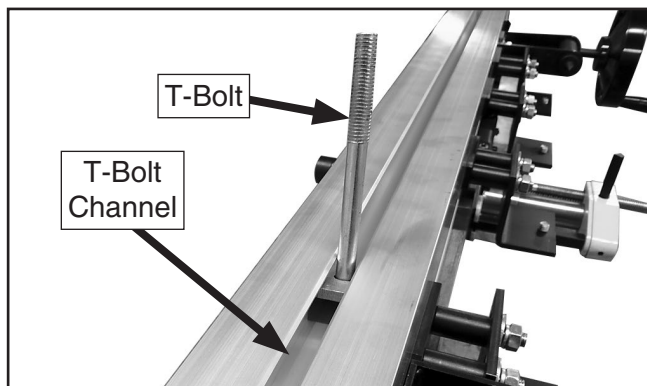

Figure 8. T-bolt installed into slot on bottom of copy attachment (1 of 2).
4. Tip copy attachment upside down so bottom channel is facing upwards, then slide (2) M10-1.5 x 100 T-bolts into channel (see **Figure 8**).